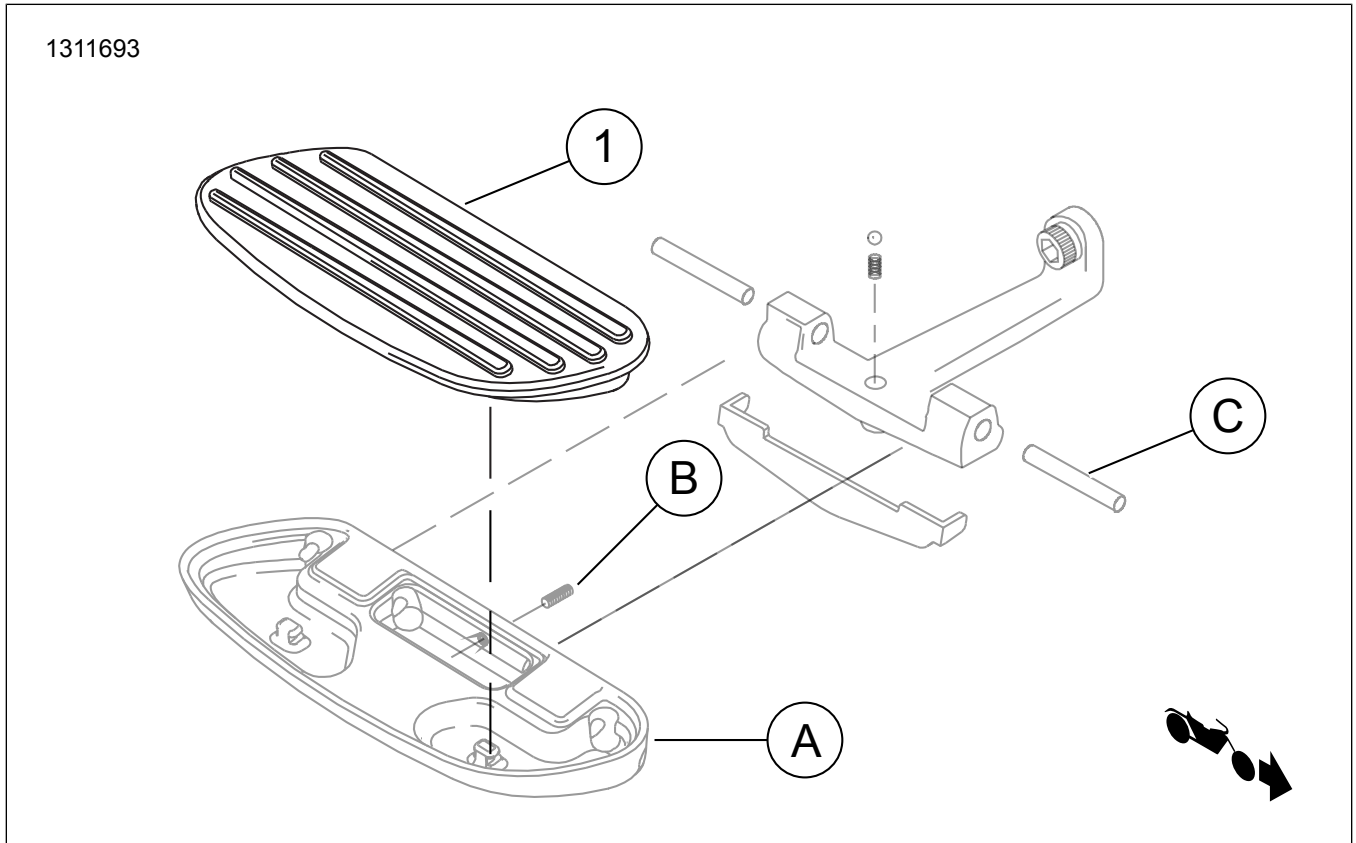

Figure 1. Kit Contents: Passenger Footboard Inserts Components (Right Side Shown)
1. Figure 1. Fold passenger footboard (A) into the UP position.
2. Loosen, but do not remove footboard insert setscrew (B).
3. With footboard folded DOWN, carefully raise an outside corner of existing insert (1) with a suitable flat head screwdriver, taking care to avoid damaging the chrome footboard pan.
4. Continue around the insert, using a second tool if necessary to pry existing insert (1) from footboard pan.